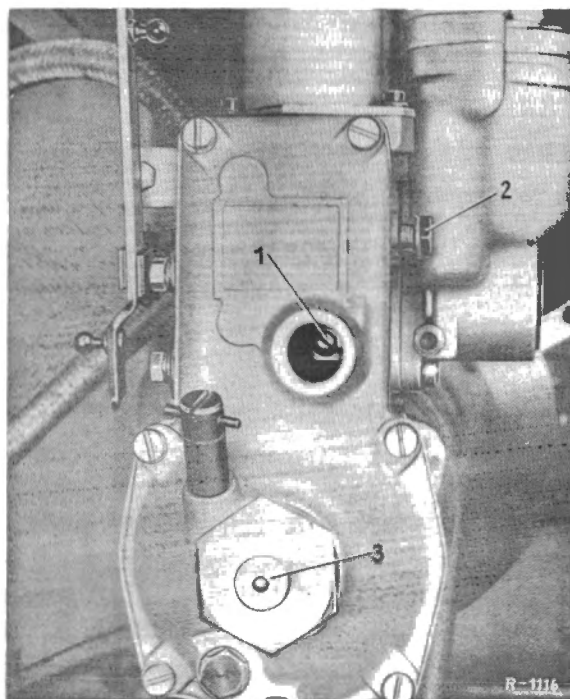

Fig. 07-14/1
To do this remove the hexagon screw plug on the control assembly cover which is lead-sealed by the firm of Bosch, and back out the mounting screw (2) as far as it will go (Fig. 07-14/1).